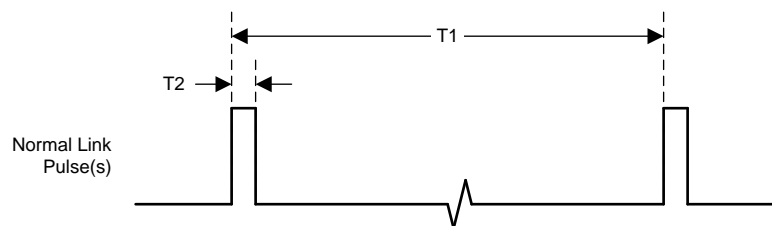

Figure 12. Normal Link Pulse(s) Timing
(1) Ensured by production test, characterization or design.
(2) See Figure 12.